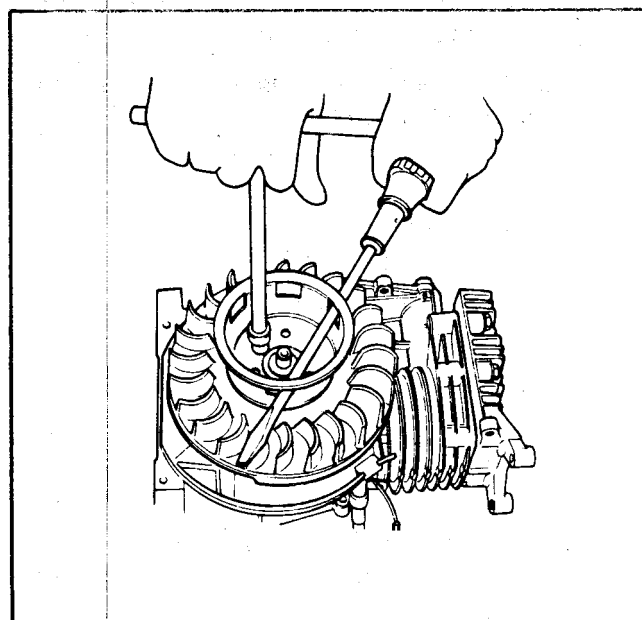

Figure 112
22. Install the starter cup as shown in Figure 112.